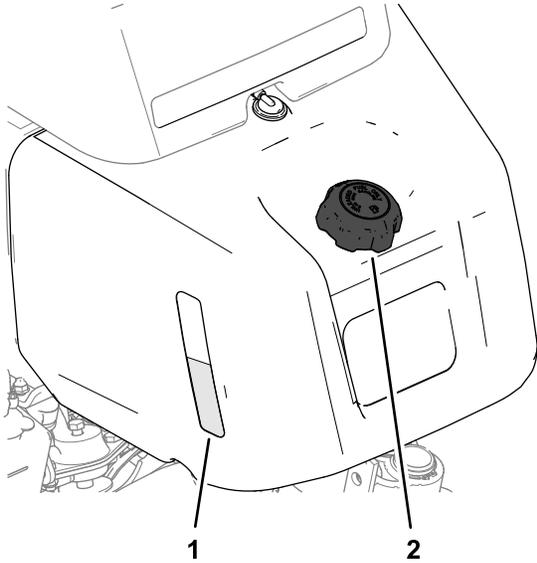
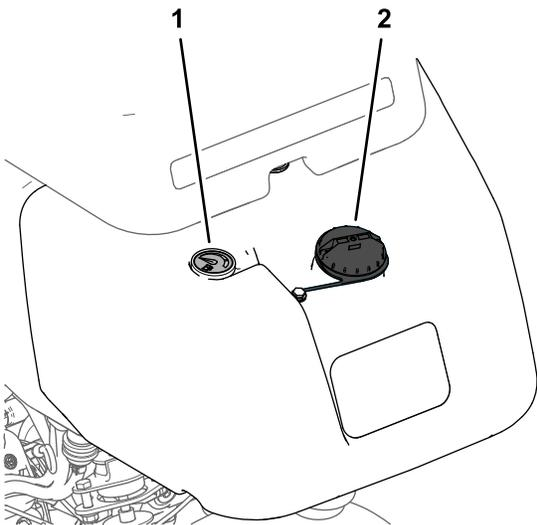

Figure 21
Figure 22
1. Clean around the fuel-tank cap and remove it (Figure 21 or Figure 22).